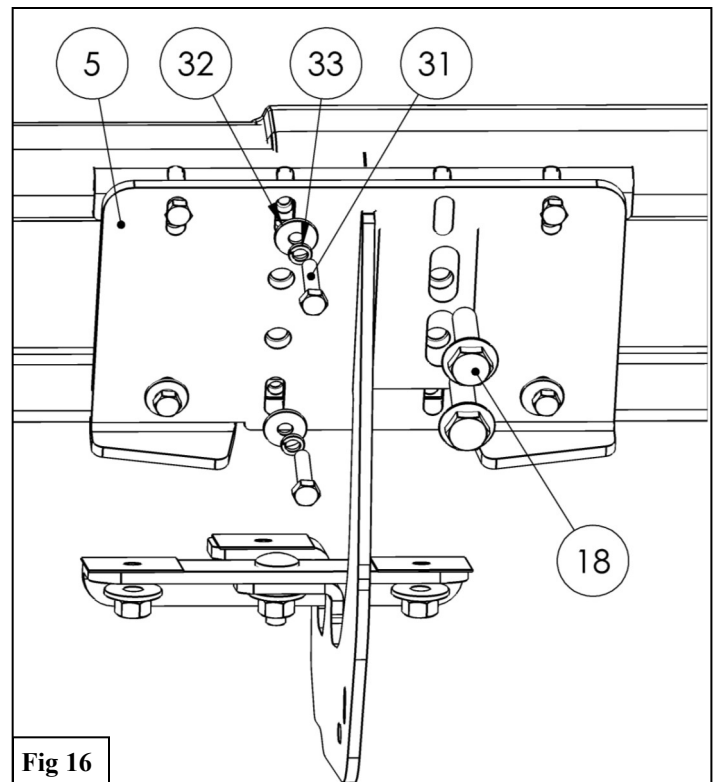

**Fig 14**
12. Obtain the Link Plate (5) and secure it to the Step Bar Assembly (1 & 2) using the supplied black M6 Hardware. See **Figure 14**. *Note:* Driver side shown.